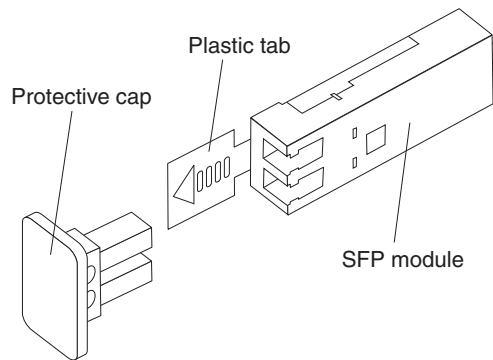

Figure 47. Small Form-Factor Pluggable (SFP) Module
5. Remove the protective cap from the SFP module, as shown in Figure 47 .